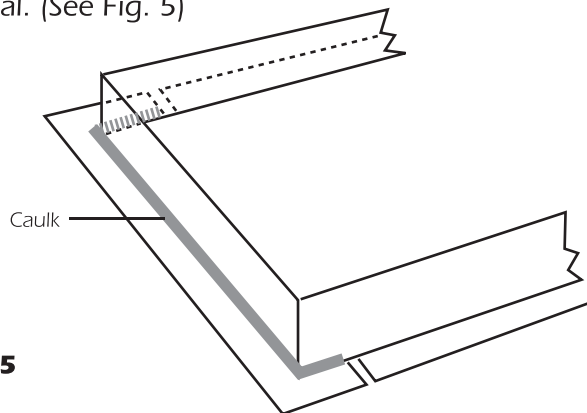

Fig. 5
Step 4- Run a 1/4" - 1/2" bead of caulk (enclosed) around the header end of the stair (end with hinge) from the break in the insulation on one side to the break in the insulation on the other side. Bead should be situated where the horizontal meets the vertical. (See Fig. 5)